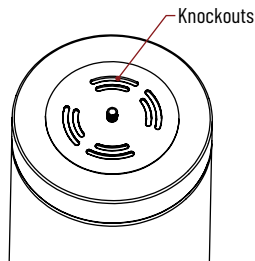

Figure 2
3. Insert power cord through nipple in cylinder cap. (Figure 2)